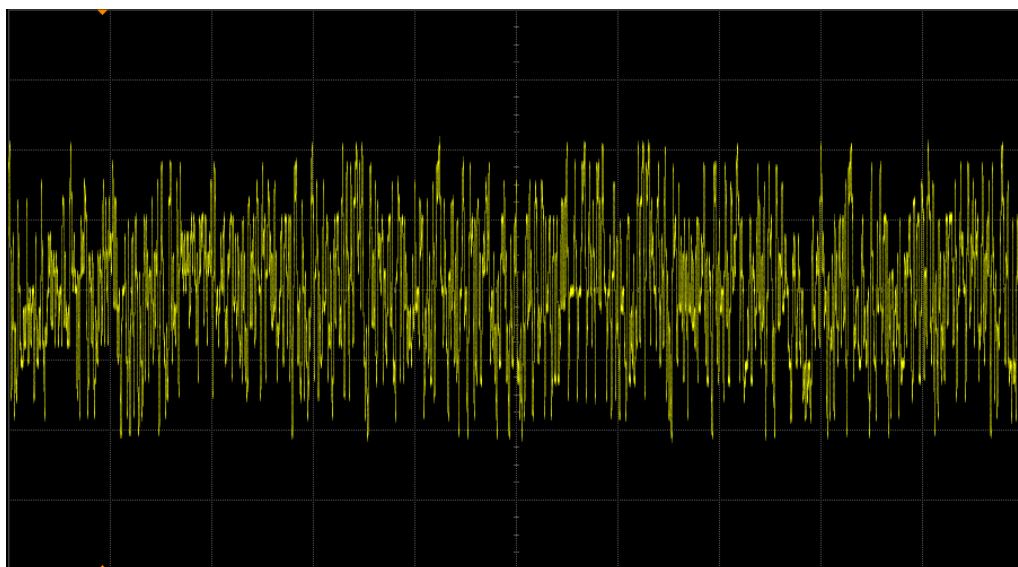

Figure 28 Example of Transmitter Test Mode 4 Waveform (1 Cycle)
- 1 Configure the DUT to output the Test Mode 4 signal. An example of this waveform is shown in Figure 28.